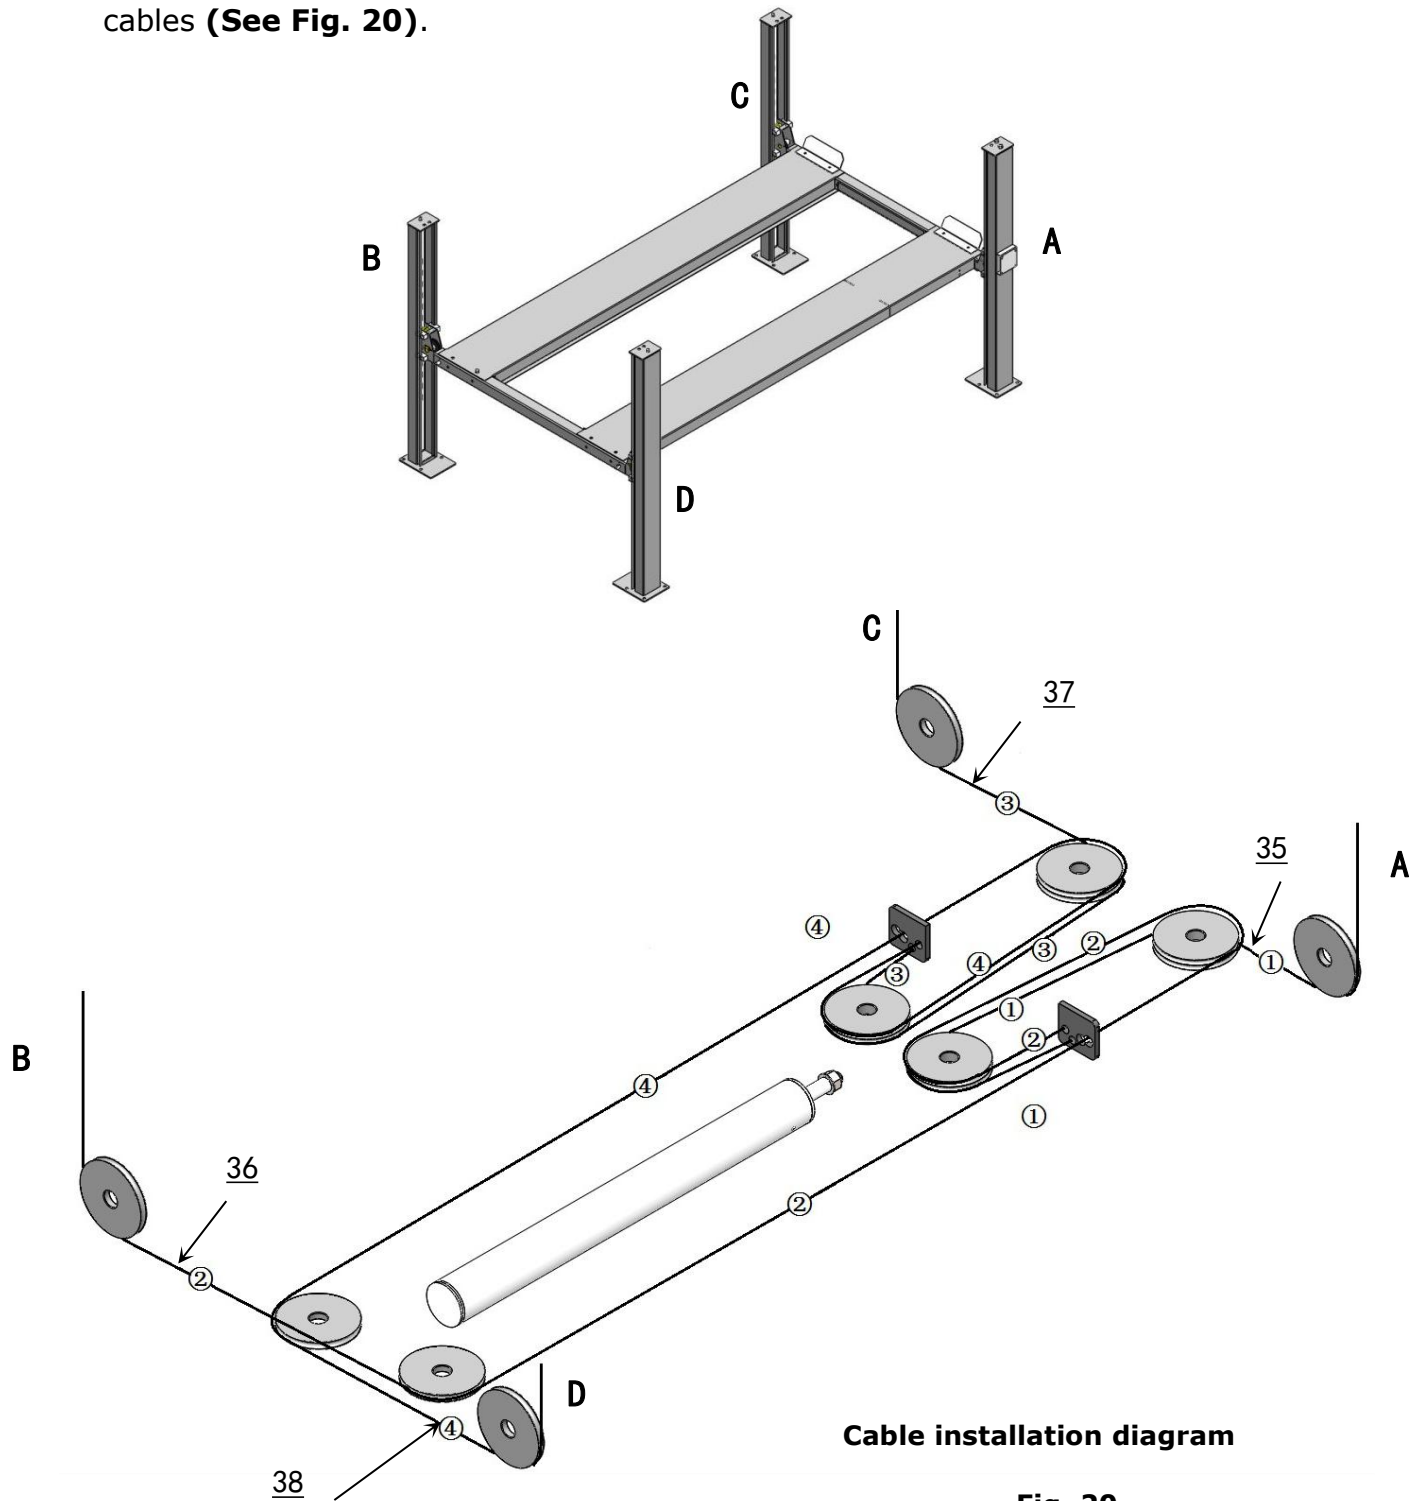

Fig. 20
1. The cables pass through the platform to the columns according to the number of the cables (**See Fig. 20**).